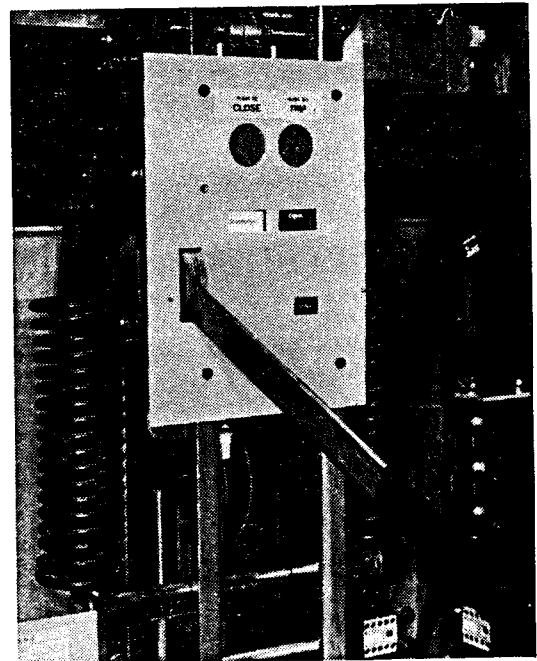

Figure 19. Manual Spring Charging
1. Insert the hand charging lever into the hand lever slot at the front of the operator control panel (see Figure 19). Operate the lever up and down until the spring condition indicator flag shows CHARGED.